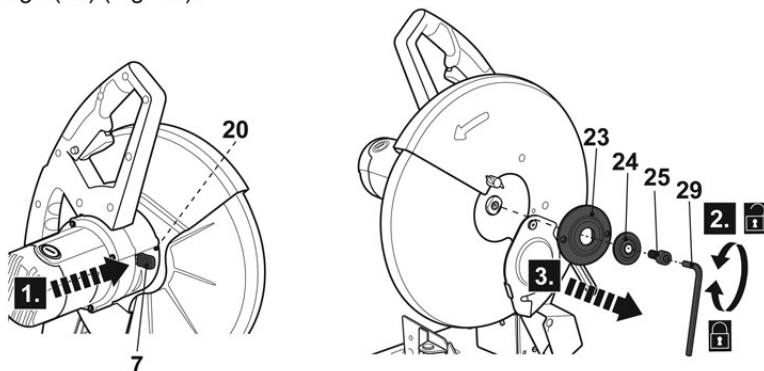

Fig. 12
> While holding the spindle lock button (7) in position, loosen the locking bolt (25) with the hex key (29) and remove it together with the washer (24) and locking flange (23) (Fig. 12).